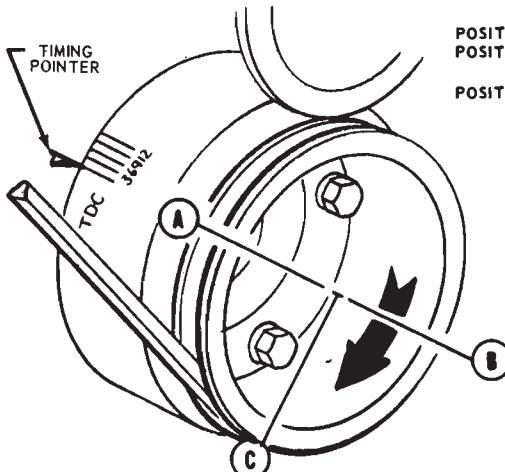

FIG. 19—Position of Crankshaft for Checking Valve Clearance and Installing Rocker Arms
3. With the No. 1 piston on TDC at the end of the compression stroke as shown in POSITION A, Fig. 19, check the following valves:
4. After checking the spacing on these valves, rotate the crankshaft to POSITION B as shown in Fig. 19, then check the following valves:
5. After checking the spacing on these valves, rotate the crankshaft to POSITION C as shown in Fig. 19, and check the following valves: